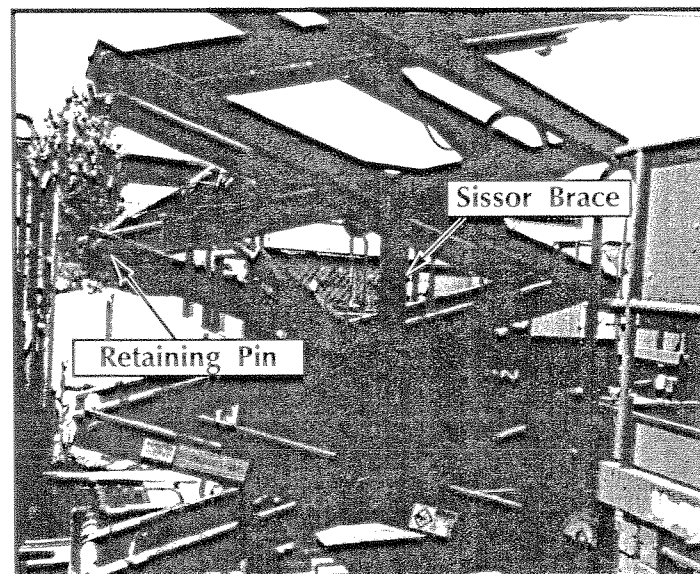

Figure 3-2: Blocking the Elevating Assembly X32N
3.2 Blocking Elevating Assembly X32N (Figure 3-2)